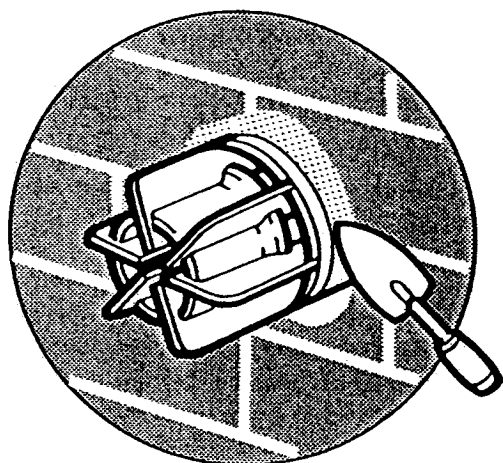

Fig. 52
9. Make good between the wall and the air duct inside and outside the building if the internal fitting kit has not been used (Fig. 52).